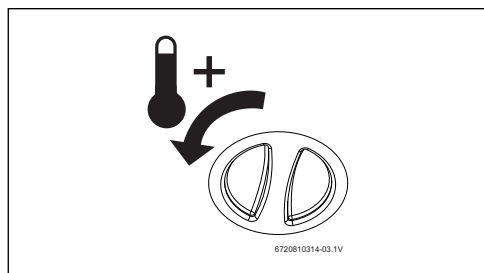

Fig. 12 Raise the temperature
- ▶ Adjust the temperature limiter to the maximum temperature. Then turn the temperature controller to the left until it stops (→ fig. 12).